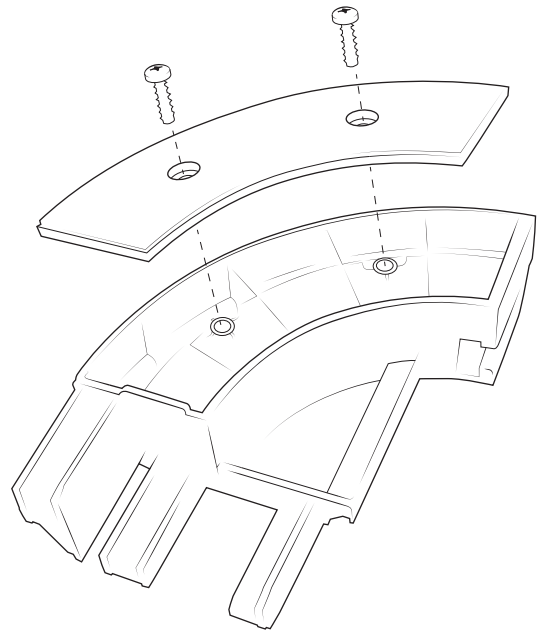

Figure 1
1. Attach corner close out plates to bottom of corner pieces using the supplied screws (Fig. 1).